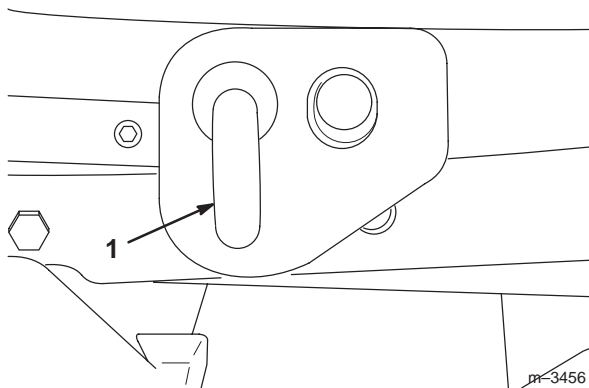

Figure 23
10. Pull the two spring loaded J-pins from the deck lift arms and twist them slightly so that they stay disengaged (Fig. 23).